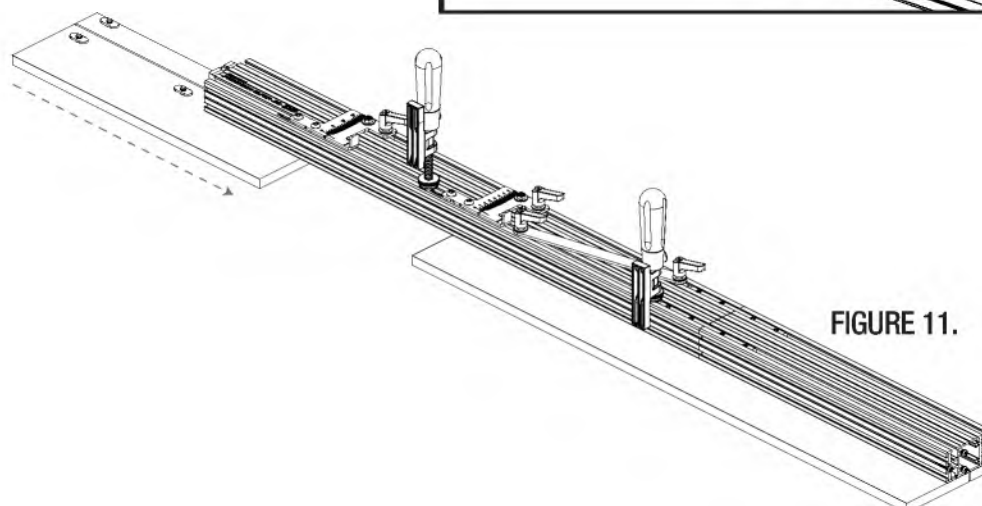

FIGURE 11.
8. In the 16" MDF extension sleds, install the Countersunk Screws and Oval Nuts (as in Section I, Page 2). Slide these Extension Sleds in from the Hinge end until they contact the 32" Long Sleds. Tighten the Screws. **FIGURE 11.**